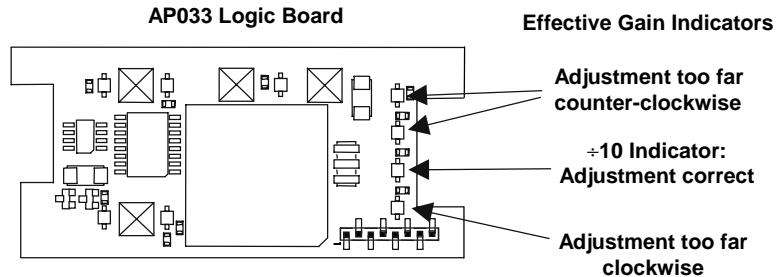

Figure 11. ±11 Effective Gain Indicator
6. In Cal Mode, the **EFFECTIVE GAIN** indicators serve as an adjustment indicator. The **EFFECTIVE GAIN** indicators are located on the Logic Board (Figure 11). It may be necessary to hold the boards in your hands to see the indicators while making the adjustment.
- Using a low capacitance screwdriver, adjust **Fine DC Balance** (R304) until the **±10 EFFECTIVE GAIN** indicator lights (Figure 11).